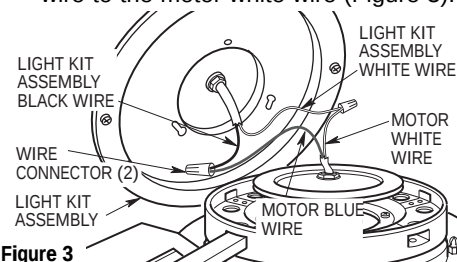

Figure 3
3. Remove the wire connectors from the motor blue and white wires. Using the removed wire connectors, securely connect the light kit assembly black wire to the motor blue wire. Securely connect the light kit assembly white wire to the motor white wire (Figure 3).